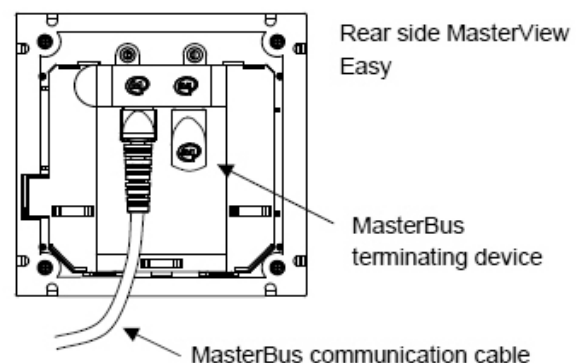

Figure 16
- 2 See figure 16. Connect the other end of the communication cable to one of both communication ports of the MasterView Easy.